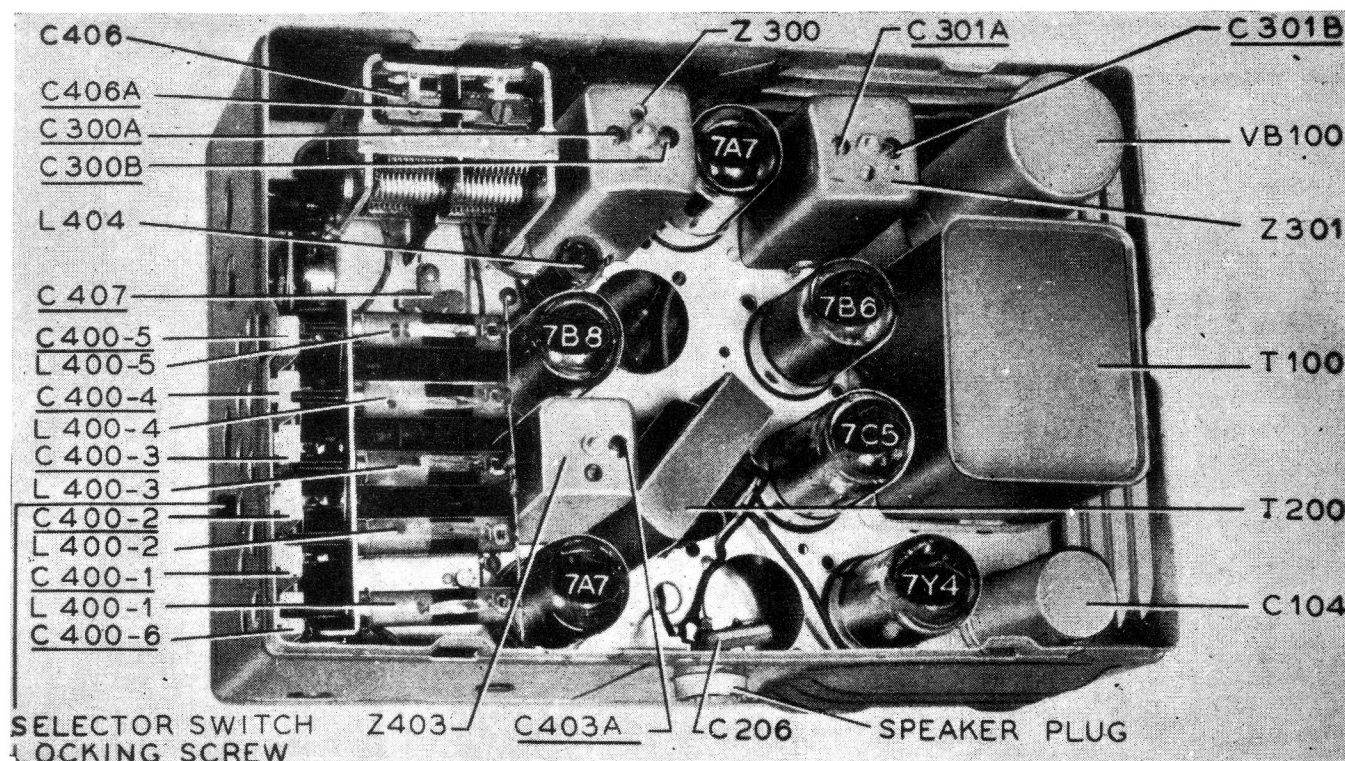

Figure 11. Top view, showing trimmer-condenser locations.
* To set the selector switch in "DIAL" position, unscrew the locking screw (see figure 11, page 6) until it protrudes $\frac{1}{2}$ " from the outside of the case. Then rotate the selector switch until it locks. This will be the "DIAL" position,